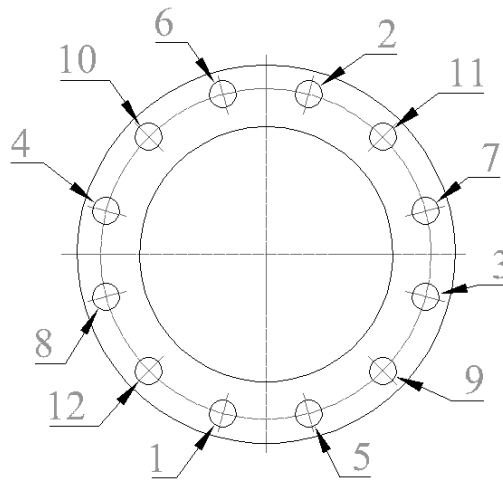

Fig. 4 Recommended re-tighten order
- Re-tighten diametrically opposite all the bolts as per factory specifications to overcome possible bolt relaxation during long-term storage (Fig.4)
- For high temperature and high pressure applications after 24 hours of operation, all nuts shall be re-tighten diametrically opposite up to design stresses (Fig.4). This action compensate any relaxation or creep. Periodic inspection is recommended, thereafter.